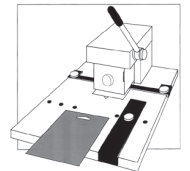

Fig. 3
- 4 - Remove the card with a perfectly punched hang hole. [Figure 3]